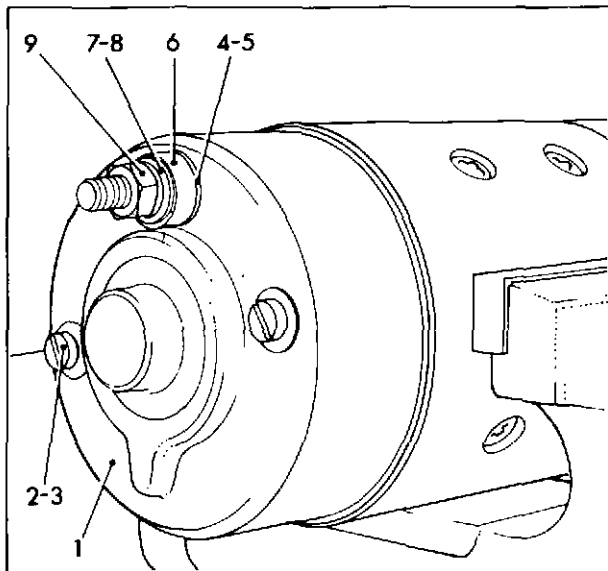

Fig. 28 Replacing commutator end shield cover
- ing thickness are available. Assemble shims (4), thrust washer (5) and bolt (6) and tighten the bolt to a torque value of 34.0 to 40.7 Nm (25 to 30 lbf. ft.) while holding the pinion with Tool No. 6244-39. Add or subtract shims as necessary to obtain a clearance of 0.1 to 0.3 mm (0.004 to 0.012 inch between the thrust washer and the shims.
7. Slide bush (7) over the return terminal (8) and press fully home.
8. Fit insulating bush (9), plain washer (10), shake-proof washer (11) and screw (12); tighten the screw to a torque value of 1.69 to 2.03 Nm (15 to 18 lbf. inch). Pull on the return terminal (8) and tighten the brush screws (13) through the access holes in the commutator end shield to a torque value of 1.69 to 2.03 Nm (15 to 18 lbf. inch).
9. Remove both through bolts and fit the felt washer (14) and seal (15). Place the commutator end shield cover (1) fig. 28 in position, refit both through bolts (2) with sealing washers (3) and tighten to a torque value of 12.9 to 13.6 Nm (9.5 to 10 lbf. ft.).
10. Fit the thin sealing washer (4), rubber seal (5), seal locator (6), plain washer (7), spring washer (8) and nut (9) on the return terminal; tighten to